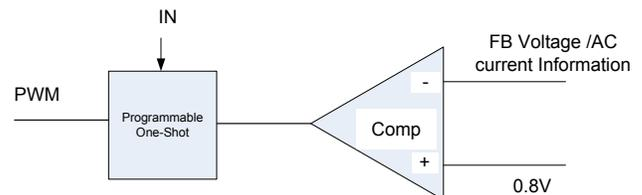

Figure 2. Simplified Control Schematic of AOZ2263AQI-15
The simplified control schematic is shown in Figure. 2. The high-side switch on-time is determined solely by a one-shot whose pulse width can be programmed by one external resistor and is inversely proportional to input voltage (IN). The one-shot is triggered when the internal 0.8V is higher than the combined information of FB voltage and the AC current information of inductor, which is processed and obtained through the sensed lower-side MOSFET current once it turns-on. The added AC current information can help the stability of constant-on time control even with pure ceramic output capacitors, which have very low ESR. The AC current information has no DC offset, which does not cause offset with output load change, which is fundamentally different from other  $V^2$  constant-on time control schemes.